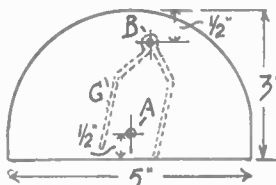

Fig. 3
For the cupola cut two end pieces of $\frac{3}{4}$ in. thick wood to the shape shown in Fig. 3, an end view. At point (A) at the middle, bore a hole for the screw on which the sails of the mill will subsequently rotate. This is done on one end only, of course. In both ends bore a hole (B) for a stiff wire rod (C) to swing in. These latter holes are drilled $\frac{1}{4}$ in. away from the centre of the ends to prevent the rod (C) fouling the pivot pin on which the cupola rotates. These holes should really be metal bushed for easy action, but a more simple method is to drill holes in a small piece of metal and screw it inside over the holes in the wooden ends. It is also a good plan to ease the action by slightly enlarging the holes in the wood, leaving the rod to turn in the metal bearings only.